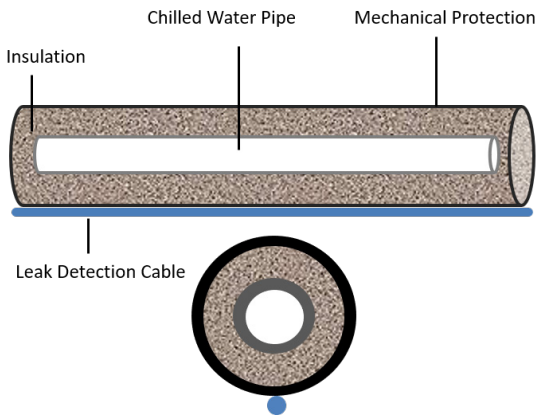
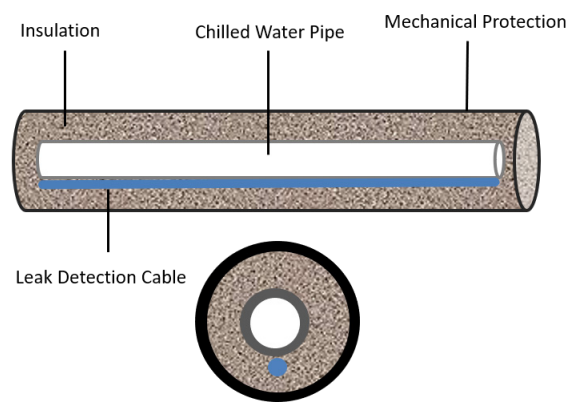

Figure 2.3.1
Figure 2.3.2
For pipe with insulation (without drip tray), figure 2.3.1 et figure 2.3.2 present two kinds of water sensing cable installation.
### Layout Explanation (Figure 2.3.1 & Figure 2.3.2) :
- The sense cable FG-ECB is installed outside the insulation, on the outside diameter of the mechanical protection sleeve. (Figure 2.3.1);
- The sense cable is installed inside the insulation, on the outside diameter of and under the chilled water pipe (In this case, take into account of condensation phenomena) (Figure 2.3.2).